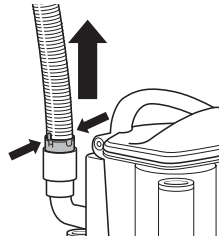

Fig. 28
- Detach the stretch hose from the back of the pod by squeezing the tabs together and pulling up. (Fig. 28) Straighten out the hose and look inside for blockages.